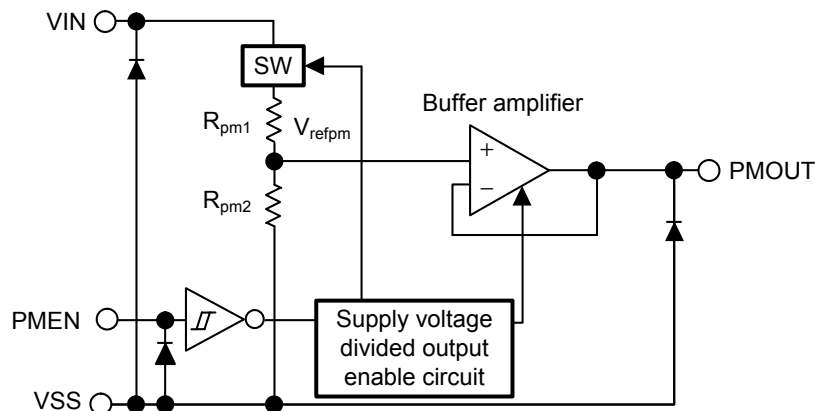

Figure 7
**Figure 7** shows the block diagram of the supply voltage divider block to describe basic operation.